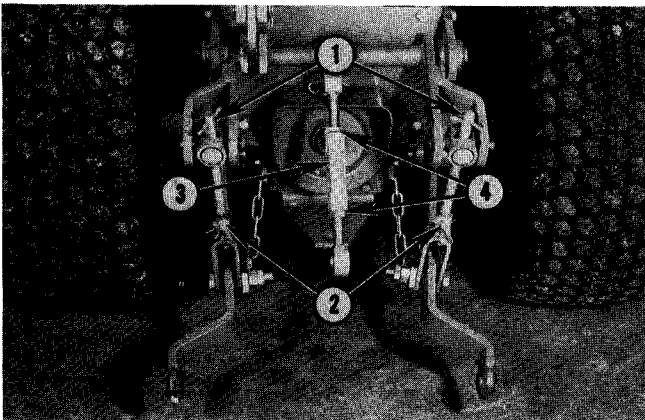

Fig. 56 — 3-Point Hitch
4. Back Tractor up to within a few inches of mower, shut off engine and lower Tractor 3-point hitch lift arms, Fig. 56.
NOTE: If after installing first lift arm the other is not level with its pin remove hair pins in adjustable lift links and screw up or down as necessary by turning "T" handles, Fig. 56.